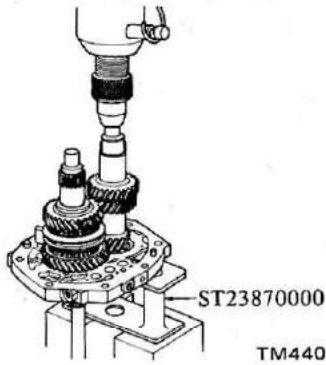

Fig. TM-31 Installing countershaft
3. Install countershaft into adapter plate by pressing it. See Figure TM-31.